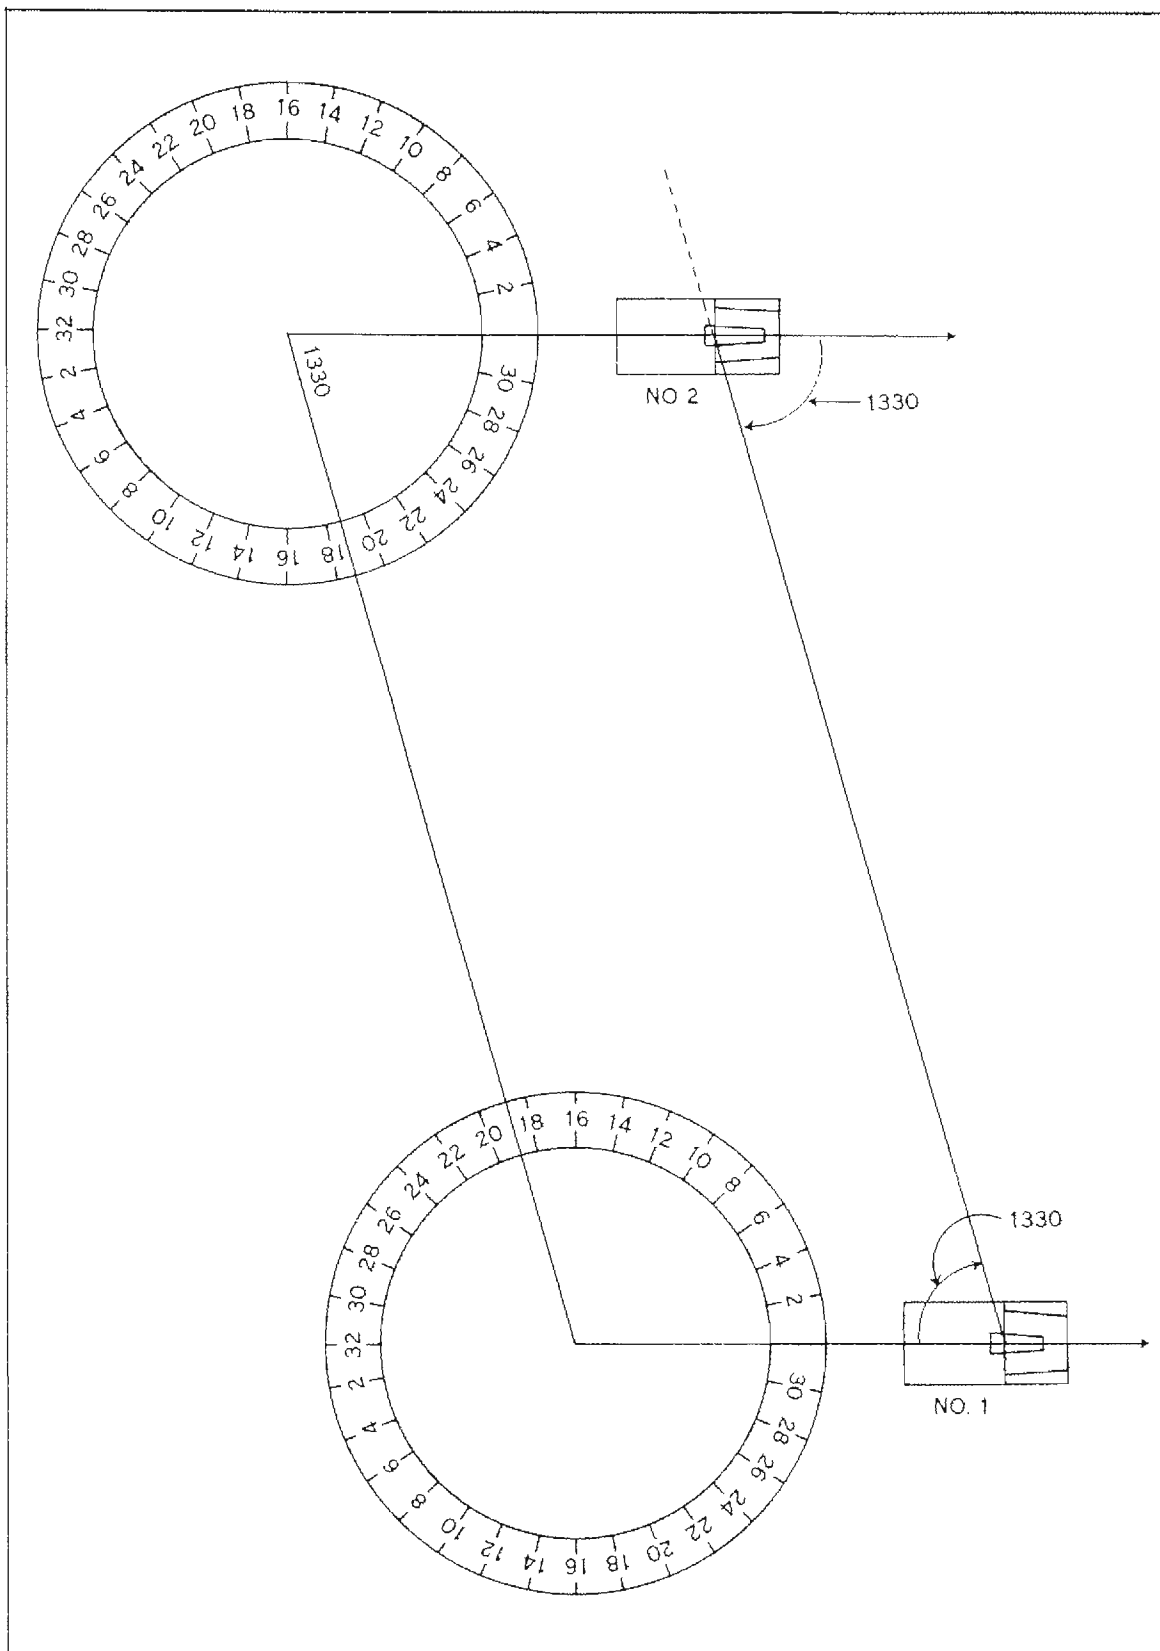

Figure 52
c. When the vertical crosshair of his sight reticle is exactly on the sight of the No. 2 gun, he reads the deflection on his sight and calls it out to the No. 2 gunner. In the case illustrated in fig. 52, he would call: "No. 2, deflection 1300."